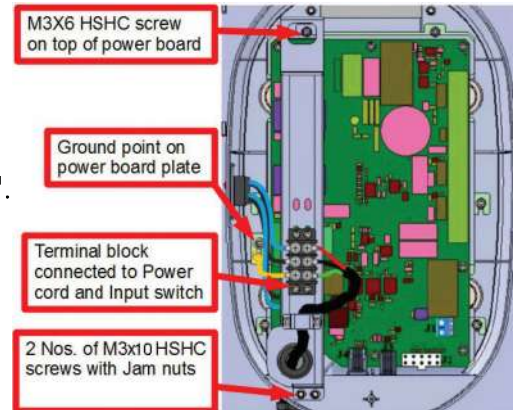

Figure 131
- Disconnect the "Live(Black) and Neutral(Blue) wires(Ring terminals) of switch" from the terminal block fixed on the power board clamp using phillips screw driver as shown in Figure 131 .
- If required disconnect the GND(ring terminal) wire from the GND terminal on power board plate located just below the switch by removing the M3X6 HSHC screw using 2.5mm allen key as shown in the Figure 131 .
- Remove the power board clamp from the base unit by removing 1 no. of M3X6 HSHC Screw on top side of the power board using 2.5mm allen key and 2 no's of M3X10 HSHC screws, plain washers and Jam nuts (screws will be inserted from rear side and nut with washer to be fixed from front side) using 2.5mm allen key and 5.5mm nut driver at the locations shown in Figure 131 .
- Fix the power board clamp from the base unit by fixing 1 no. of M3X6 HSHC Screw on top side of the power board using 2.5mm allen key and 2 no's of M3X8 HSHC screws, plain washers and Jam nuts (screws to be inserted from bottom rear side and nut with washer to be fixed from front side) using 2.5mm allen key and 5.5mm nut driver at the locations shown in Figure 131 .
- Connect the GND(ring terminal) wire to the GND terminal along with the other GND wire(If removed) on power board plate located just below the switch by fixing the M3X6 HSHC screw using 2.5 mm allen key as shown in the Figure 131 .
- Connect the "Live(Black) and Neutral(Blue) wires(Ring terminals) of switch" to the terminal block fixed on the power board clamp using phillips screw driver as shown in Figure 131 .